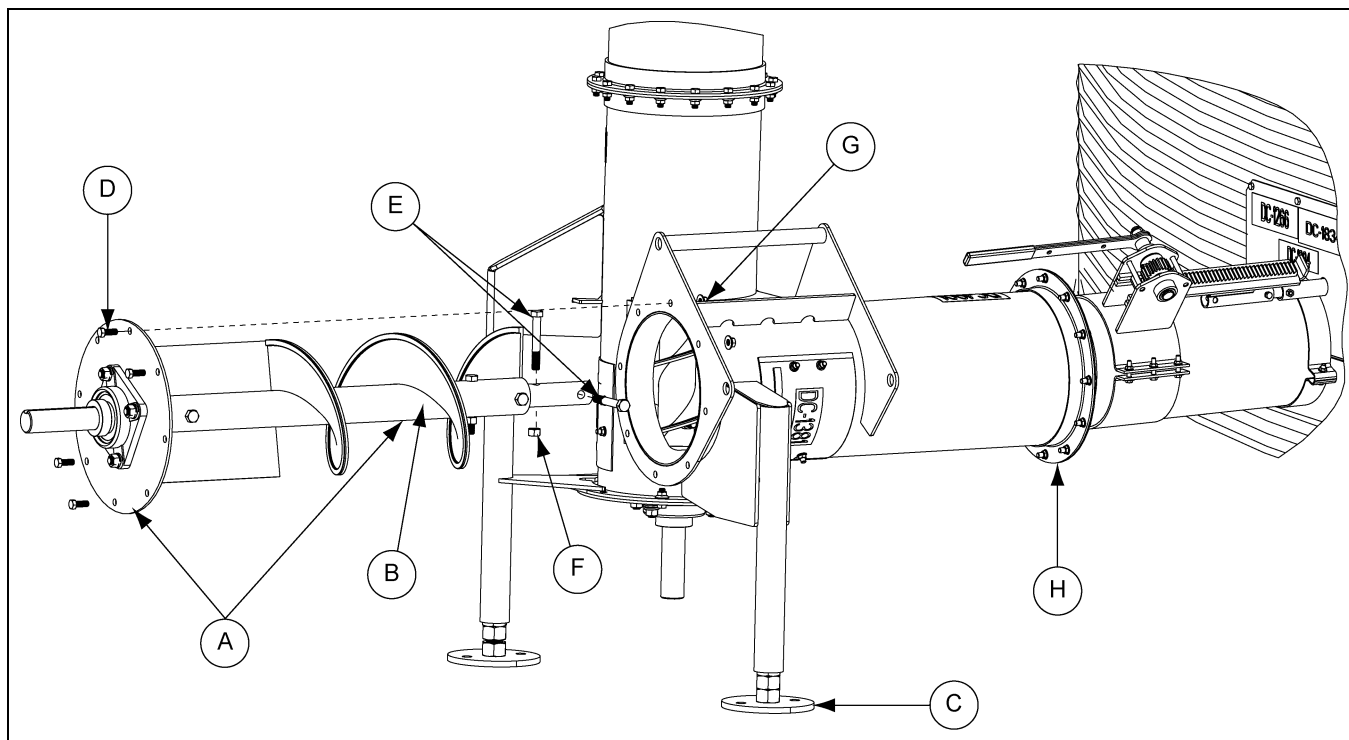

Figure 3D
- A. Slide the *bin unload flight (B)* out through the *vertical auger*. In some applications the flight may have to be unbolted from the center well.
- B. Attach the *horizontal head flight* and *bearing plate assembly* with the appropriate hex bolts and stover nuts. (See Figure 3D on Page 16.)